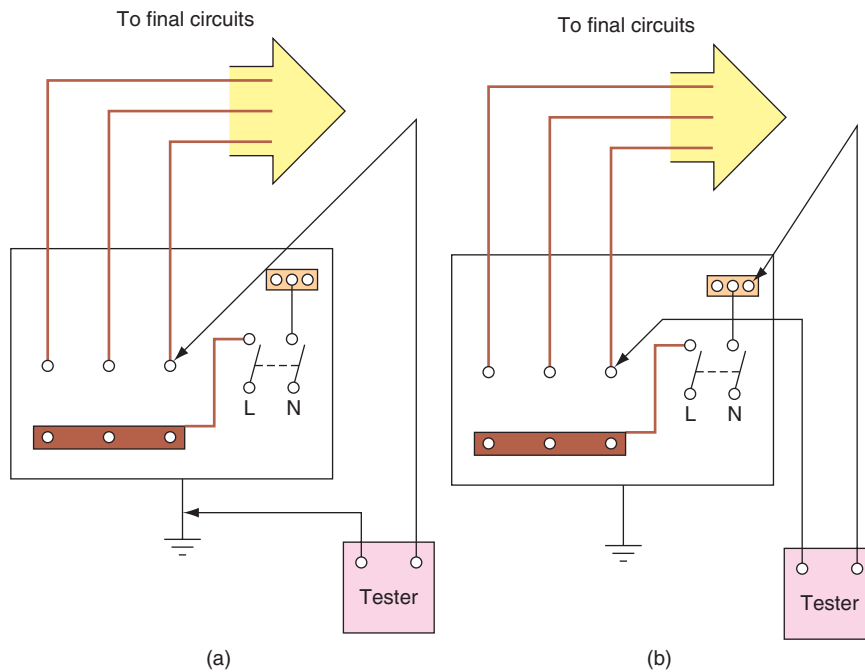

Figure 4.36 Insulation resistance test.
- 4 Test separately between the line conductor and earth *and* between the neutral conductor and earth, for every distribution circuit at the consumer's unit, as shown in Fig. 4.36 (a). Record the results on a schedule of test results such as that given in Appendix 6 of the IET Regulations.
- 4 Test between line and neutral conductors of every distribution circuit at the consumer's unit, as shown in Fig. 4.36 (b), and record the result.